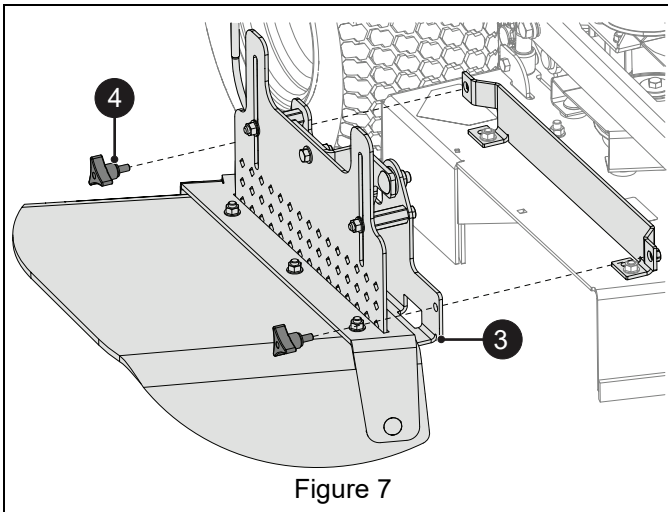

Figure 7
- Determine mounting holes to use based on deck size and attach mounting bracket (item 9) with two 3/8" x 3/4" round head square neck bolts (item 8), and two 3/8" locking center flange nuts (item 7).
4. Install discharge baffle assembly (item 3) and secure with two wing knobs (item 4). See Figure 7.